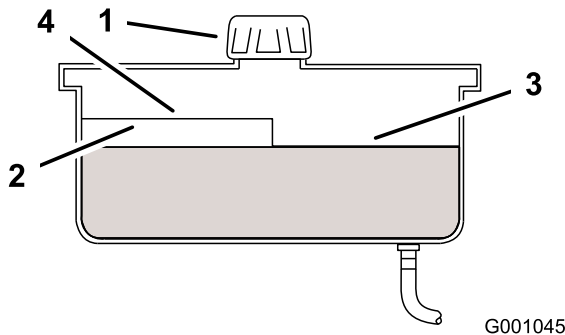

Figure 46
4. Clean area around cap and filler neck of hydraulic tank (Figure 46).
5. Remove cap from filler neck. Look inside to check the fluid level in the reservoir. (Figure 46).
- Note:** The fluid level should be to the top of the hot level of the baffle, when the fluid is warm (Figure 46).